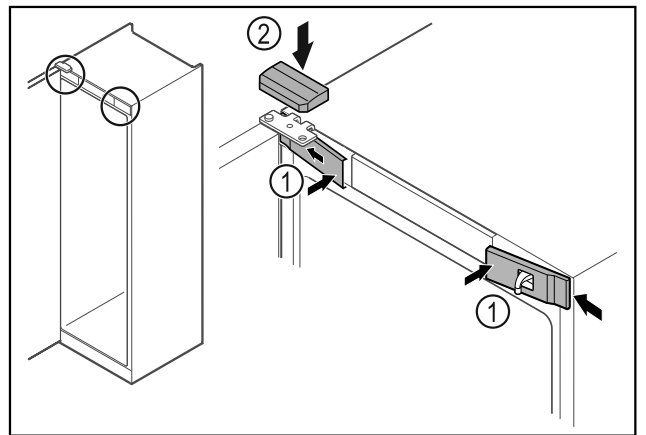

Fig. 47
- ▶ Hook in the front covers Fig. 47 (1) on the side and snap them into place.
- ▶ Snap on the top cover Fig. 47 (2) from above.